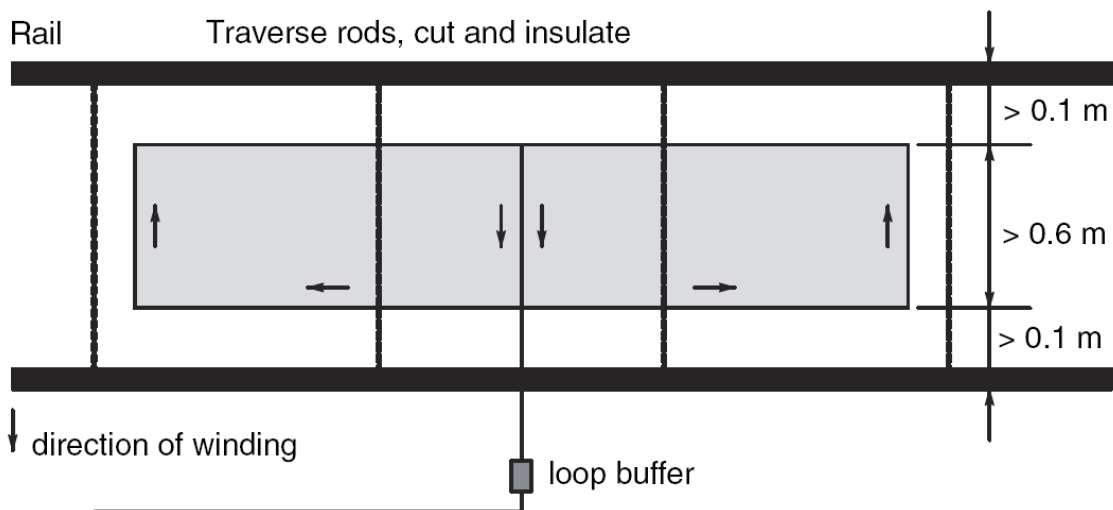

Figure 7 Loop position between rails with transverse rods
The transverse rods near a loop must be electrically disconnected from the rail, see Figure 7.
- Traverse rods, see chapter 2 paragraph "Loop position for rail traffic" and Figure 7.